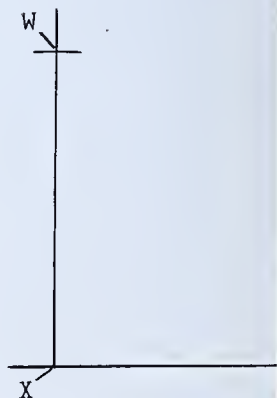

FIG. 295 —
5. Scribe a horizontal line 36" long and on it erect a 30" perpendicular (*x-w*) as shown in Fig. 295.